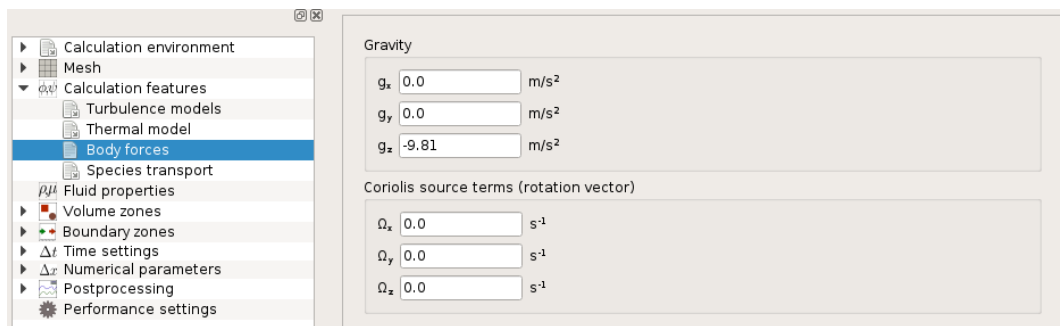

Figure 14: Setting of the gravity
- Body forces: gravity and coriolis forces, see Figure 14.